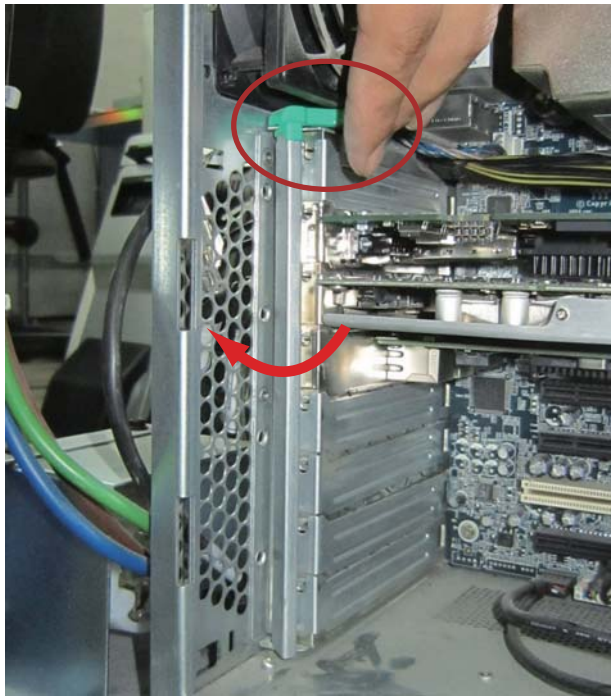

**Figure 3-3 Remove the Protect Covers**
- 7.) Reinstall the Expansion Card Support and Airflow Guide shown as Figure 3-3.